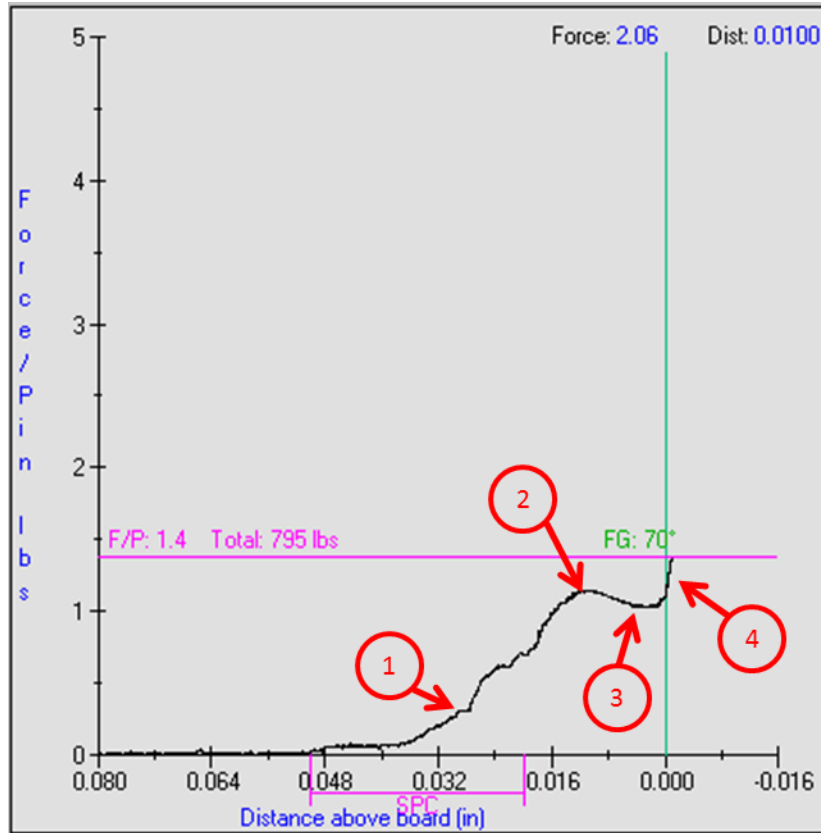

Figure A-7: Typical Force vs. Distance Curve of MEP-12T press for Paladin connectors.
The MEP-12T press produces a Force vs. Distance curve during a pressing sequence similar to the one shown in Figure A-7. The main areas of the curve are: the initial compression of the Paladin compliant pin and compliance of the PCB hole (1), the point of maximum deflection of the Paladin compliant pin (2), the sliding of the compliant pin in the PCB hole (3), and the termination force of the pressing sequence at the 70 Degree Force Gradient line (4). The following descriptions of these areas are for reference and intended as an aid in understanding the pressing characteristics of the Paladin connector utilizing the *ATCS\_FEMTO\_FG\_DWELL.prf* profile.
Part of the initial pressing sequence with the *ATCS\_FEMTO\_FG\_DWELL.prf* profile (Refer to Figure A-7) is to permit settling and alignment of all the compliant pins of the connector prior to a full pressing sequence. In this zone, the Paladin compliant pins and the PCB plated through holes begin to conform to each other and the Paladin compliant pins begin to compress. At this zone the slope of the force gradient line begins to increase as the Paladin compliant pins continue to compress.